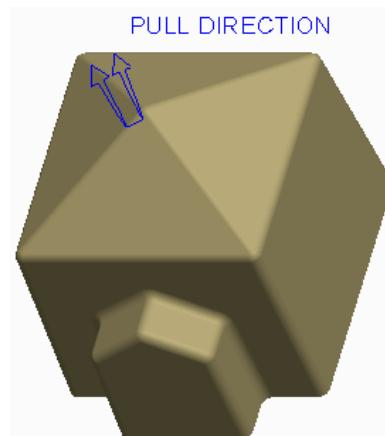

Figure 1 – Single Cavity Mold Model Layout
- Single – Places a single cavity, or single instance, of the reference model in the mold model. A Single cavity layout is shown in Figure 1.